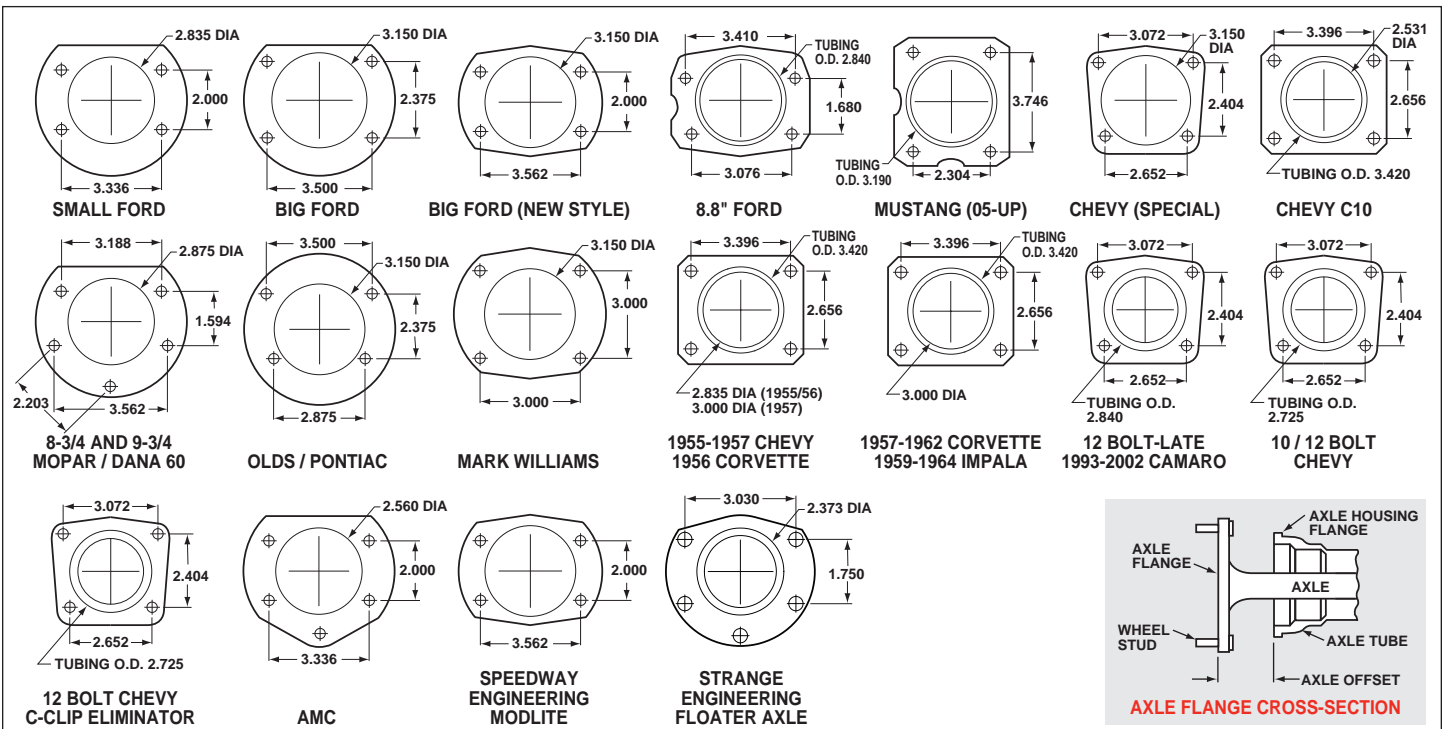

Figure 4. Rear Housing Flange Chart and Axle Flange / Offset Cross-Section
- Make sure this is the correct kit to fit the exact model rear end. This kit is designed to fit the Strange Engineering floating rear axle and hub using the Strange Engineering floater axle mounting flange shown in figure 4.